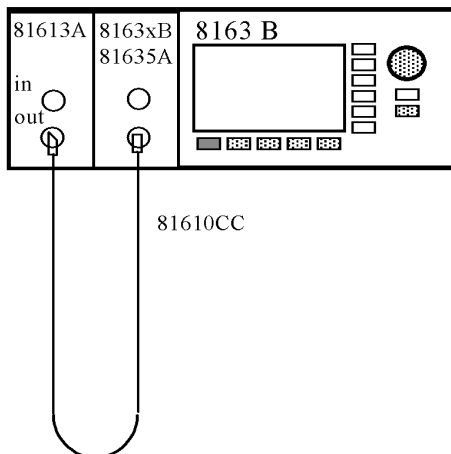

Figure 7 Return Loss Measurement Setup
- 2 Set up the equipment as shown in **Figure 7**.